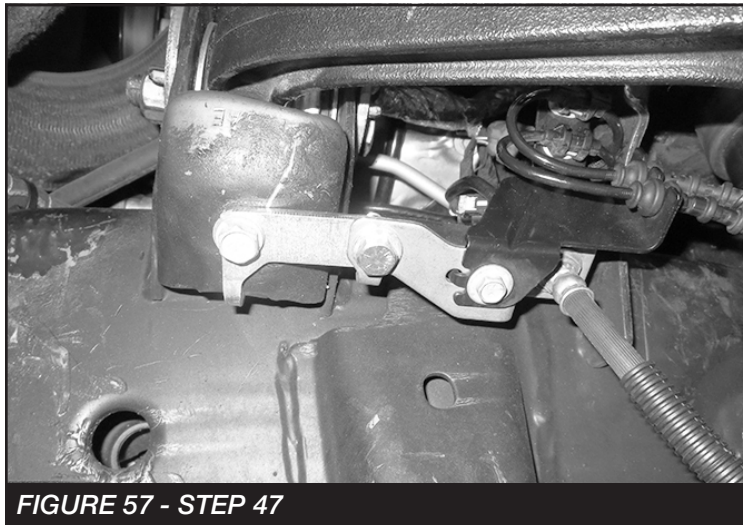

FIGURE 57 - STEP 47
47. Install FT20520 (Driver brake line bracket) onto the factory brakeline bracket using the supplied 5/16" x 3/4" bolt, nut and washers. Then, attach the new bracket to the upper control arm bumpstop pad using the factory bolt removed earlier. **SEE FIGURE 57** Repeat on passenger side.